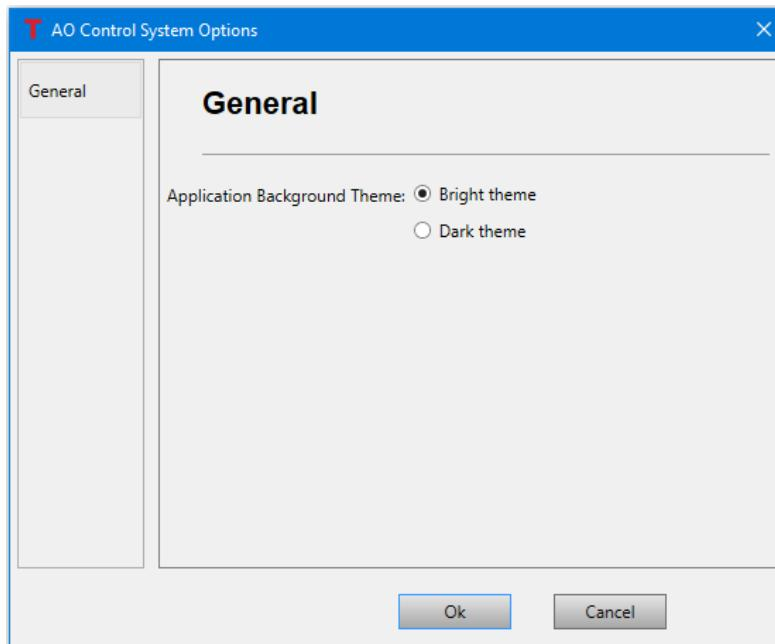
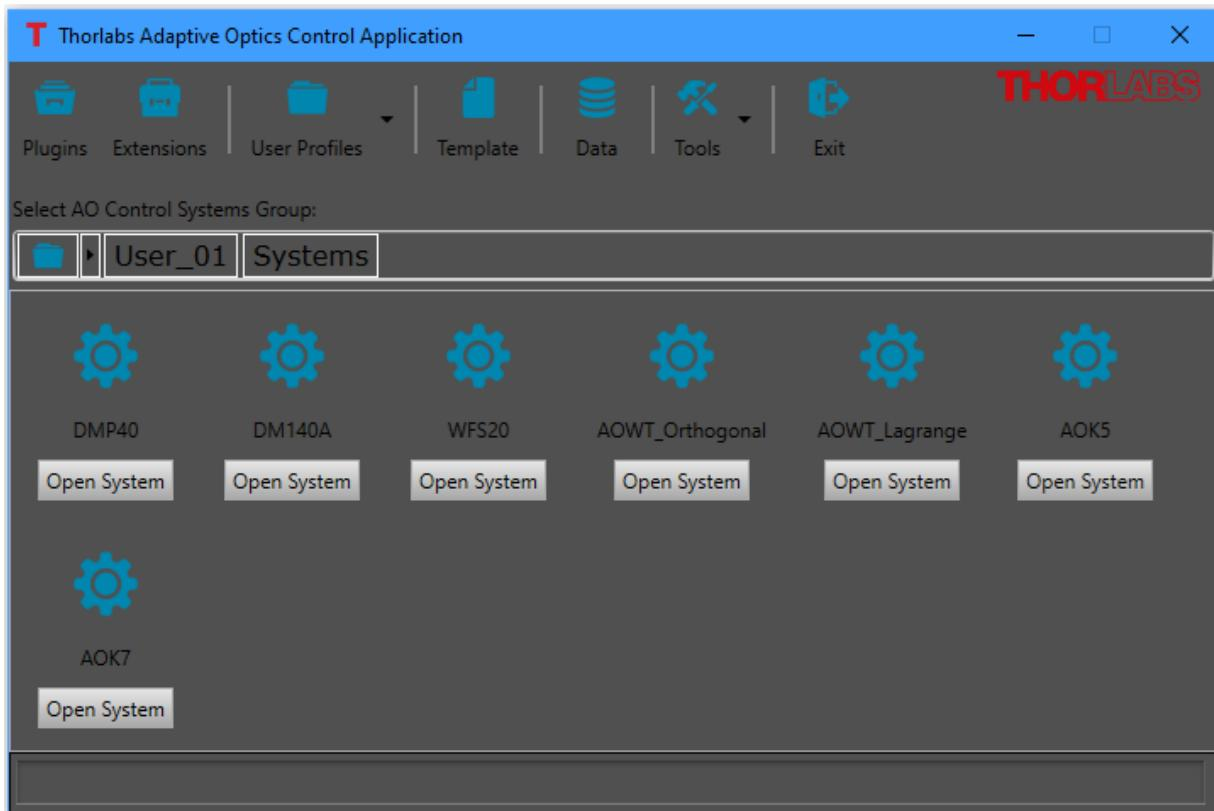
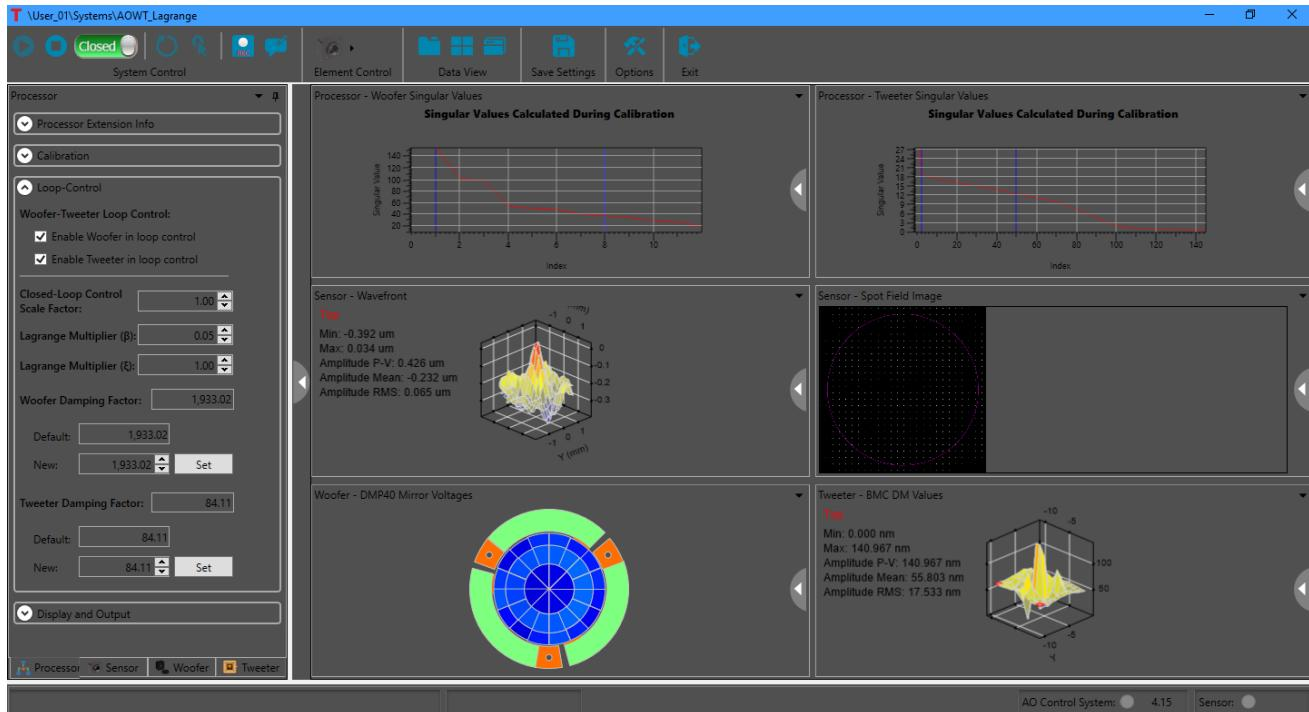

Figure 64 The AO Control System Options Window
Figure 65 The Main Control Application Window with the dark theme selected.
Figure 66 The Control System Window with the dark theme selected.
- **Options** () - At this time, the only general option for the user is to select the application's background theme, which may be one of two options: bright theme or dark theme. Clicking on the Options button will bring up the control system options window, shown in Figure 64. Selecting the Dark theme will result in the main application windows and all the opened child windows having a color scheme as shown in Figure 65 and Figure 66.